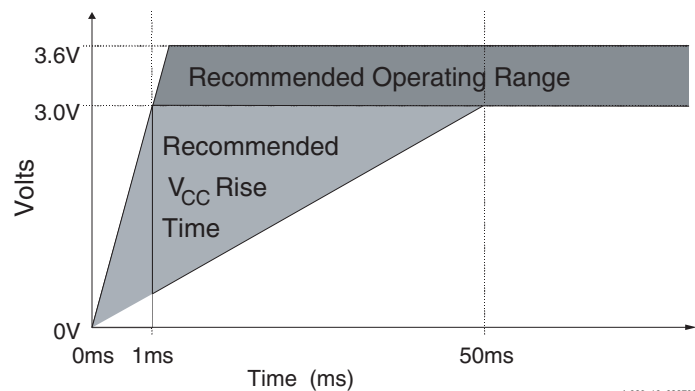

Figure 8: VCC Power-Up Requirements
On power up, OE/RESET is held low until the XC18V00 is active (1 ms). OE/RESET is connected to an external resistor to pull OE/RESET HIGH releasing the FPGA INIT and allowing configuration to begin. If the power drops below 2.0V, the PROM resets. OE/RESET polarity is *not* programmable. See Figure 8 for power-up requirements.
- At power up, the device requires the  $V_{CC}$  power supply to monotonically rise from 0V to nominal voltage within the specified  $V_{CC}$  rise time. If the power supply cannot meet this requirement, then the device might not perform power-on-reset properly. See Figure 8.